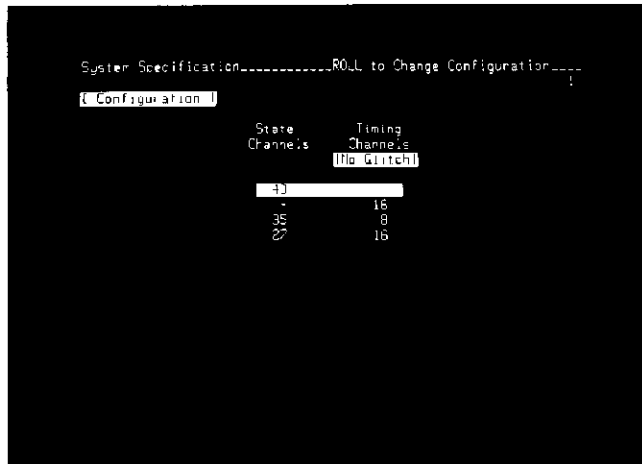

Figure 3-18. State Analyzer System Configuration
2. Press the ROLL-up-arrow one time to select use of the analyzer as a state measurement instrument. See figure 3-18.